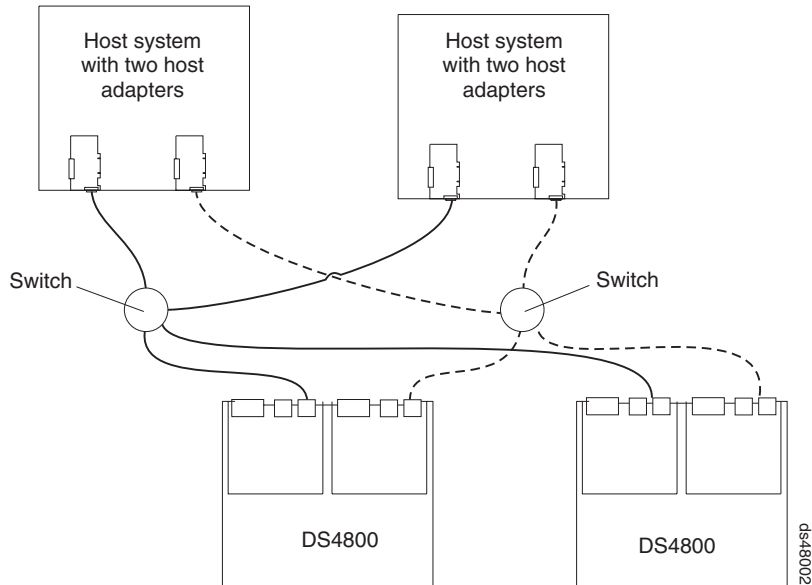

Figure 69. Example of two storage subsystems in a dual SAN environment
- Dual SAN fabric configuration, with an additional DS4800 attached, as shown in Figure 69 on page 98
In Figure 69, the fibre channel switches are not connected together. Each switch forms its own SAN fabric.